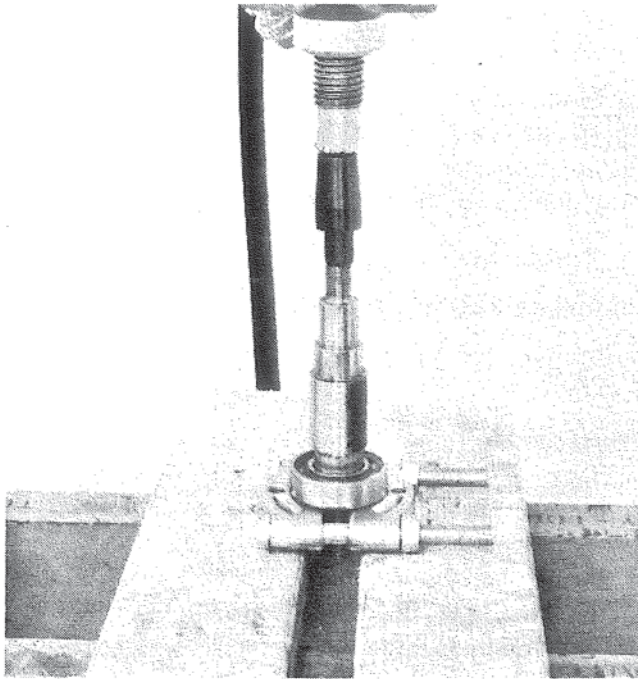
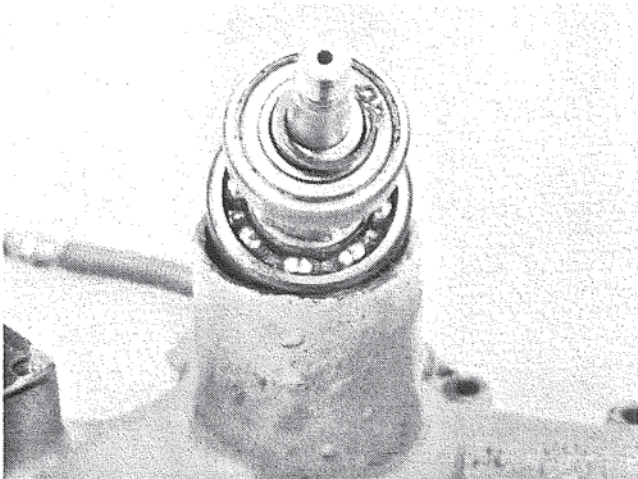

Figure 11. Installing Small Bearing.
Figure 12. Installing Retaining Ring.
2. Press small bearing onto shaft. Figure 11. Install retaining ring into groove on shaft. Figure 12.